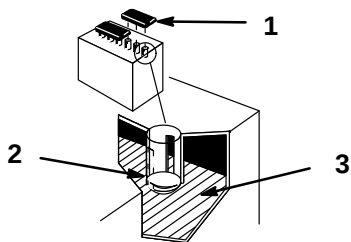

Figure 54
1. Open covers to see into the cells. The electrolyte must be up to the lower part of the tube (Fig. 54). Do not allow the electrolyte to get below the plates. (Fig. 54).
2. Lift off the filler caps (Fig. 54).
3. Slowly pour distilled water into each battery cell until the level is up to the lower part of the tube (Fig. 54).